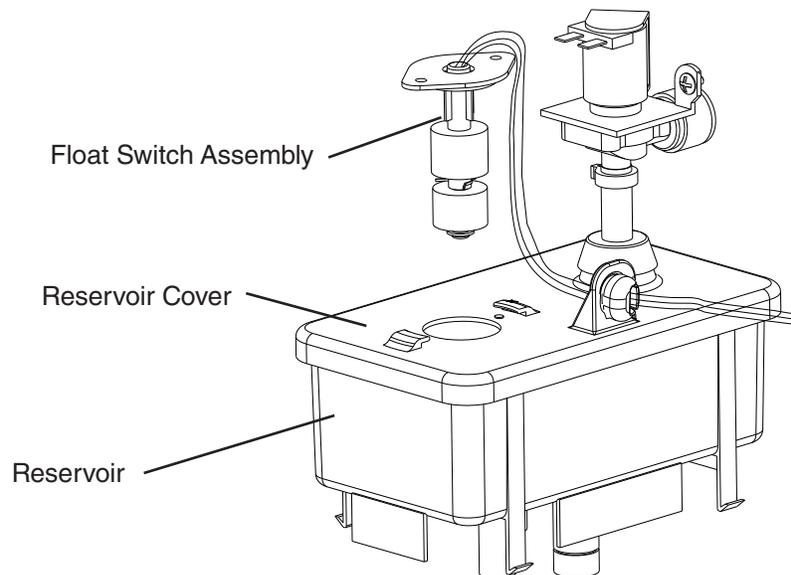

Fig. 7
- 2) Remove the float switch assembly from the reservoir cover. See Fig. 7.